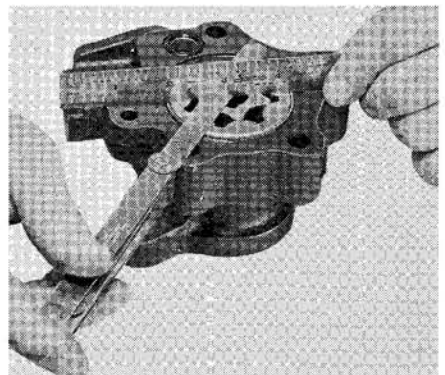

**Fig. 10—Exploded view of the power steering pump and reservoir assembly. Pump bracket (39) for early models is different than shown.**
If the gage pressure is more than 800 psi, the relief valve is probably stuck in the closed position. If the gage pressure is less than 720 psi, renew the relief valve spring (25—Fig. 10) and recheck the pressure reading. If the gage pressure is still too low, it will be necessary to overhaul the pump as outlined in paragraph 26.
26. **OVERHAUL.** With pump removed from tractor as outlined in paragraph 25, refer to Fig. 10 and proceed as follows: Remove the reservoir spring and filter assembly, then clean the pump assembly. Remove the reservoir retaining cap screws and the reservoir stud (11), then lift reservoir and reservoir retaining plate (13) from pump body. Remove and discard the two "O" rings which are between reservoir and pump body. Remove the nut and lockwasher retaining pulley to pump shaft and using a suitable puller, remove pulley. Remove the four cap screws which retain pump cover (33) and separate pump cover and pump body (28). Remove and discard the two "O" rings from their grooves in pump body. Remove the pump rotors (23) and rotor drive key from pump shaft. Remove snap ring (16) retaining rotor shaft